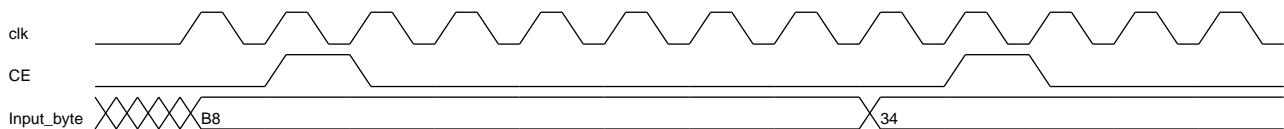

Figure 3: Input Timing Pattern
- The core is pipelined, and minimum latency between every input byte and the next input byte is 8 clock cycles, as shown in Figure 3.